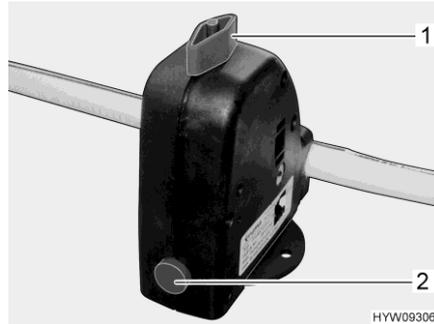

Fig. 97 Safety/drainage valve (Truma)
- Close the safety/drainage valve (Fig. 97). Turn the knob (Fig. 97,1) perpendicular to the safety/drainage valve and push the push button (Fig. 97,2) in.